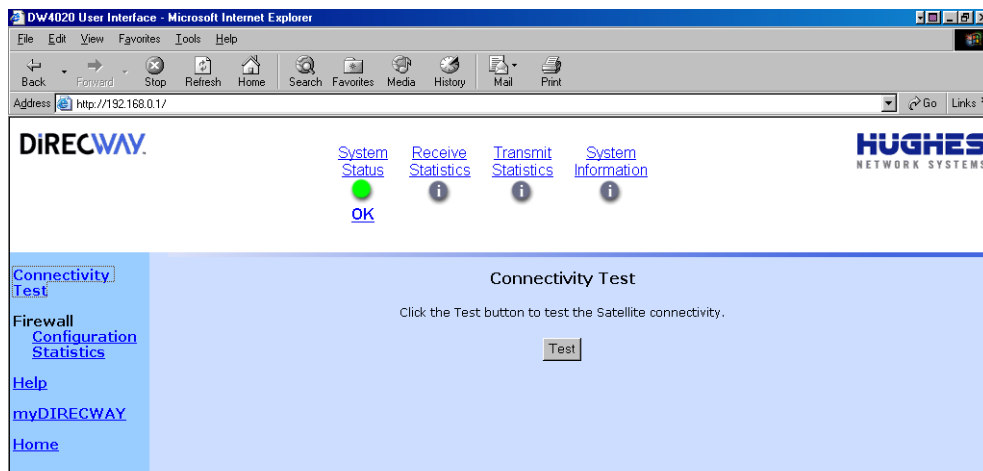

Figure 40: Connectivity Test
1. Click on Connectivity Test on the left hand side of the **User Interface**. The screen in Figure 40 appears.